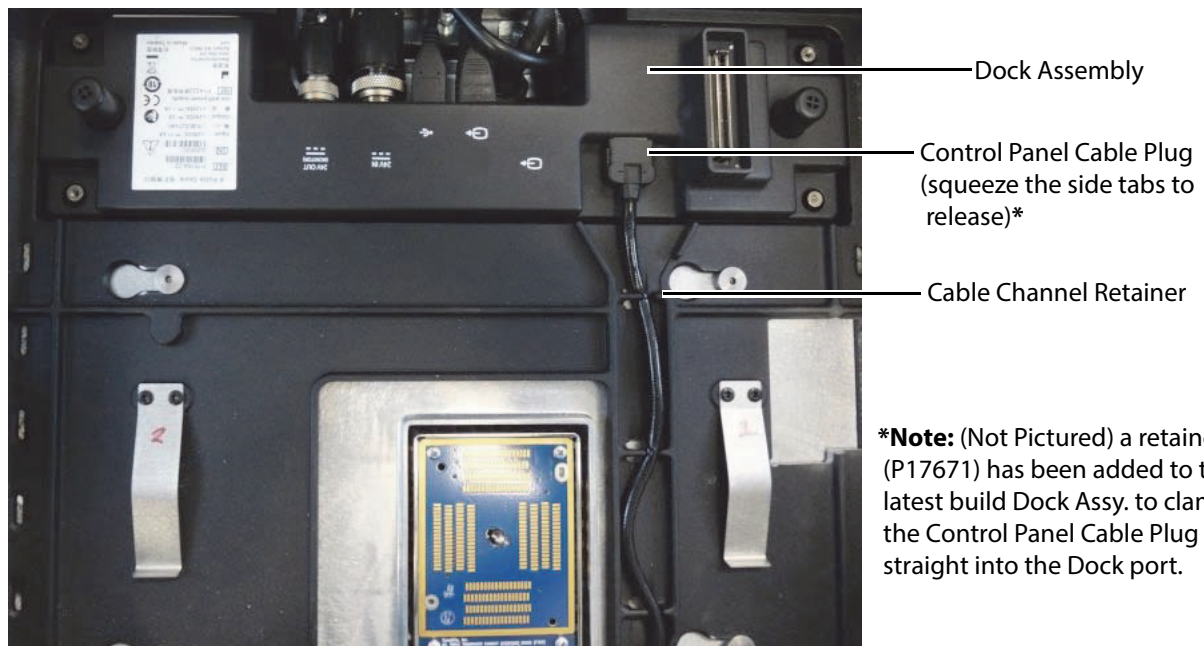
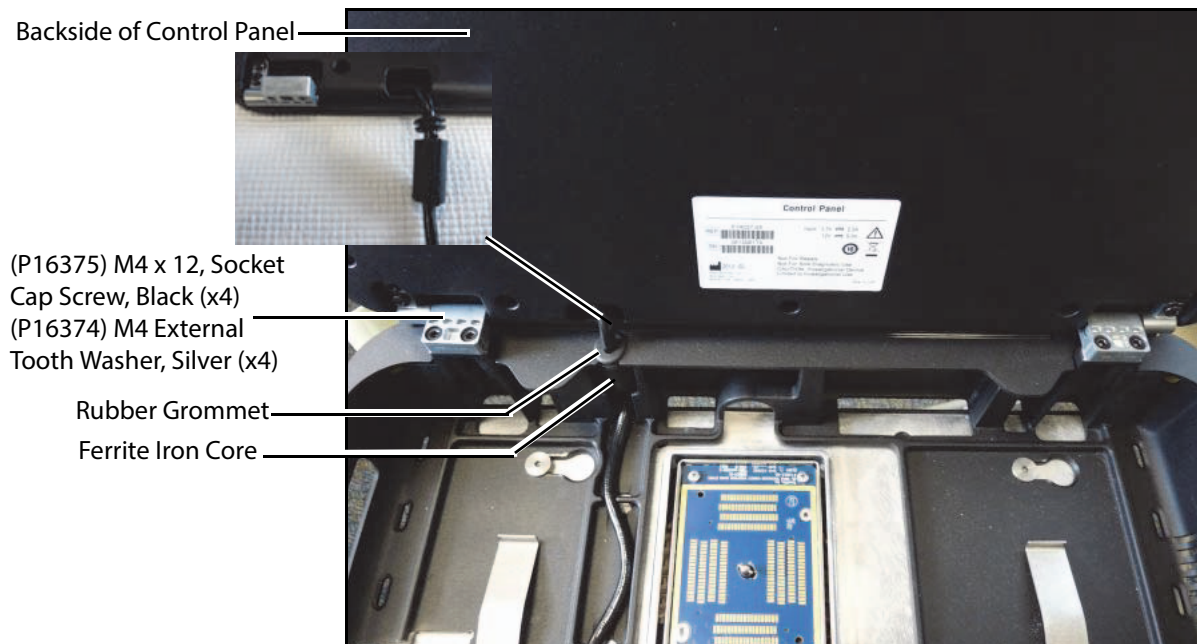
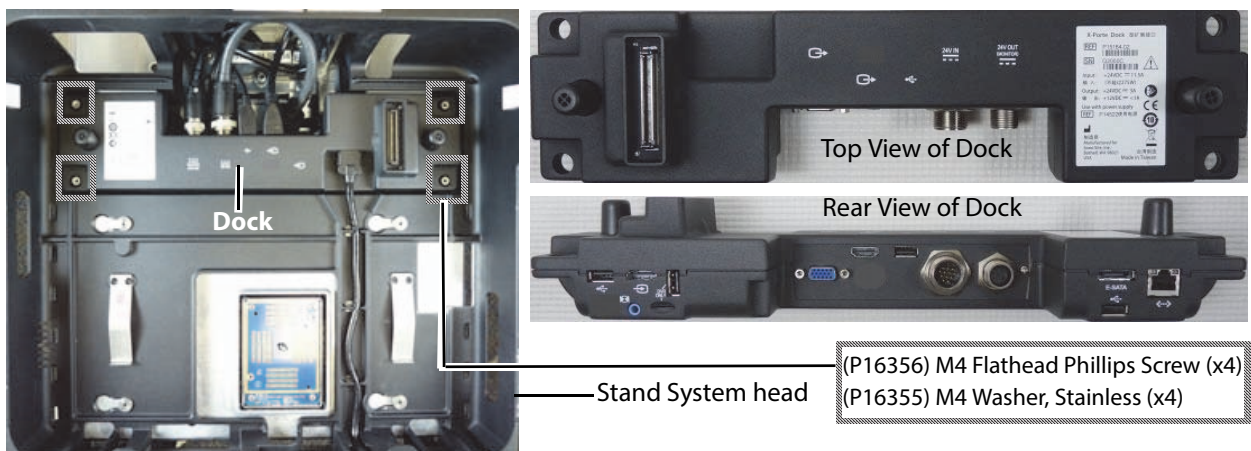

Figure 6.4 Control Panel Cable Plug
Figure 6.5 Control Panel Mount
Figure 6.6 Dock Cabling
- 3 Remove the Control Panel cable connection at the Dock assembly by squeezing both sides of the connector plug and pulling out from the Dock. Refer to Figure 6.4 on page 38
- 5 At the vertical cable retention, carefully pry out the rubber grommet and the cylindrical ferrite iron core. It may require some of the cable to be fed up from the bottom to loosen the cable. Refer to Figure 6.5 on page 38.
- 2 Refer to Figure 6.4 on page 38 and Figure 6.5 on page 38.
- 4 Disconnect the Control Panel cable connector from the Dock. Refer to Figure 6.4 on page 38. The new Dock Assembly will have the (P17671) Retainer requiring it to be flipped upward before removing the Control Panel cable. Please refer to Figure A.4 on page 64
- 5 Remove the four M4 flathead Phillips screws (P16356) and the four M4 stainless steel countersunk washers (P16355) from the Dock mounting posts located inside the Stand System head area. Refer to Figure 6.6 on page 39
- 1 To Replace the Dock, perform steps 1-6 in the reverse order located in the Dock Removal section of this chapter. Refer to Figure 6.6 on page 39 and Figure 6.4 on page 38